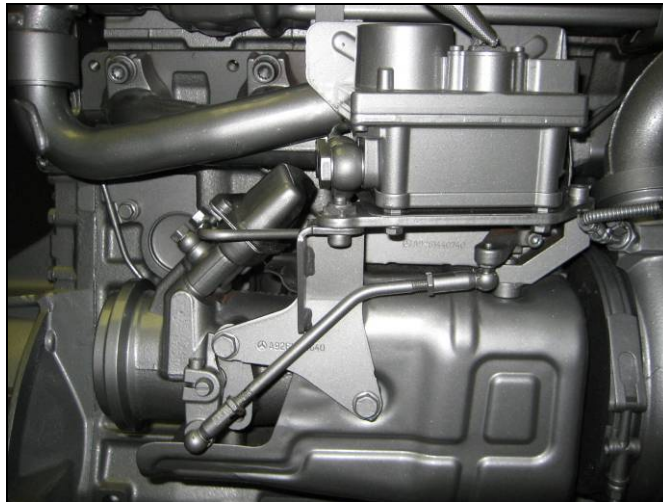

Figure 1 - Actuator Linkage
1. Make sure vehicle ignition is OFF. Remove retaining clip and carefully remove the linkage from the exhaust flap lever arm and the SRA. See Figure 1.